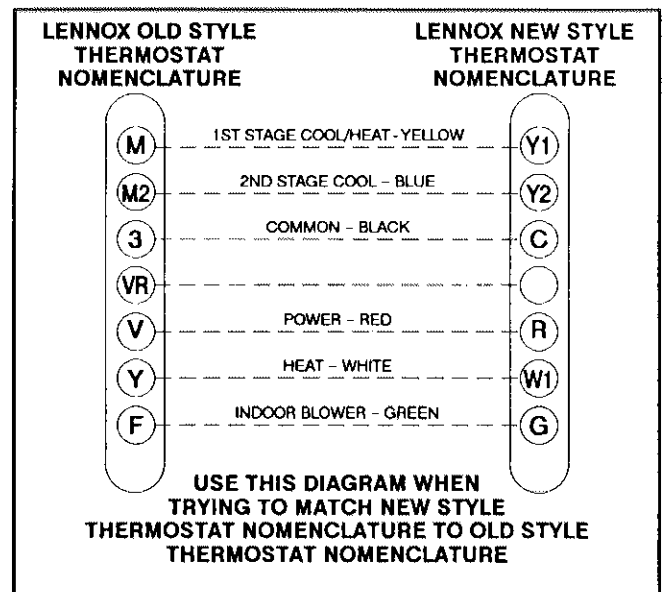

FIGURE 14
- 3- Install room thermostat according to instructions provided with thermostat. See figure 14 for new Lennox thermostat nomenclature versus old style nomenclature.